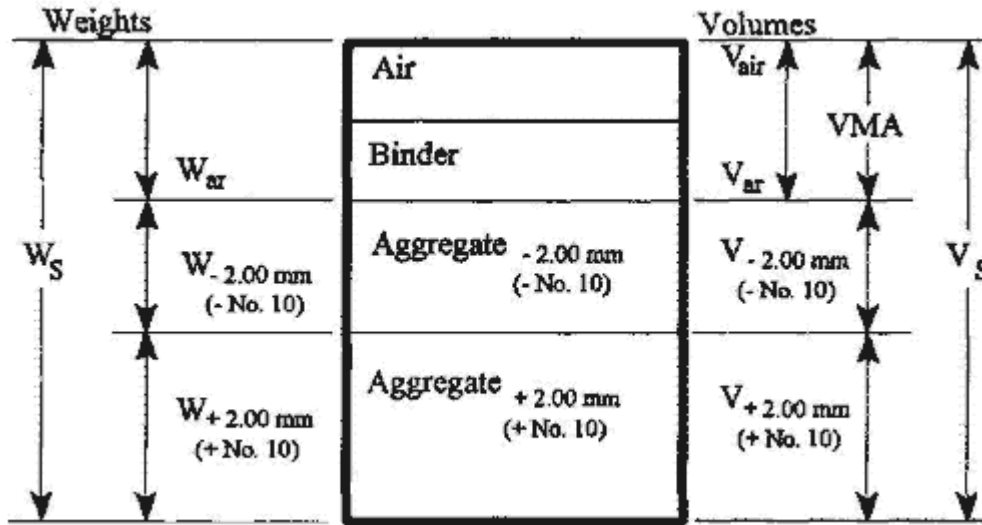

Figure 2—Volumetric Analysis of Molded Specimens.
5.5 Figure 2 shows a graphical representation of components of a molded specimen.